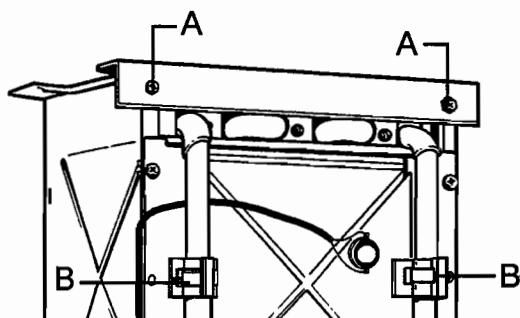

Fig. 11
a) Remove the two screws (A) holding the deflector plate in position (see fig. 11).